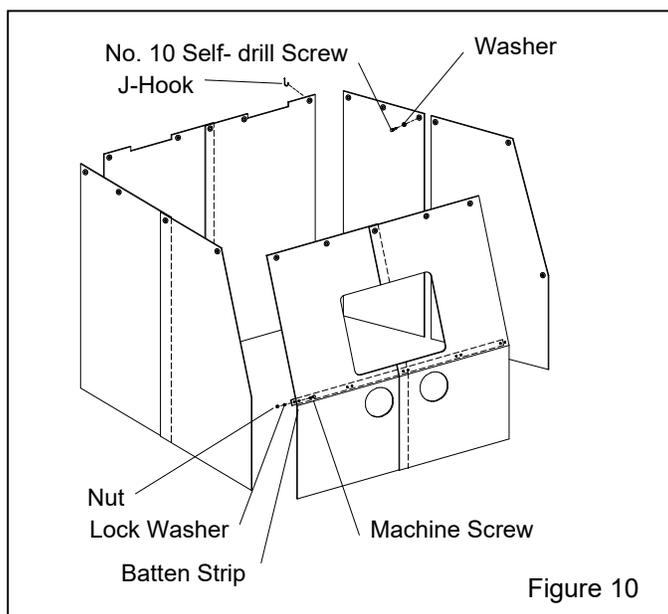

Figure 10
3.2 Cabinet Curtain Installation – Figure 10
3.2.1 Match the curtains to the corresponding wall and door as shown in Figure 10. Hook the curtains to the J-Hooks welded along the top of the front, back, and side walls. Cut openings for the hoses on the lower left rear wall.
3.2.3 For front walls, place the batten strip over the curtain, and clamp it in position on the front slope above the break as shown in Figure 10. Match drill .187" (3/16") diameter holes through the rubber and cabinet front at each batten hole. To install the batten, insert #10-24 x 1" round head machine screws through the cabinet front, curtain and batten. Install lock washers and nuts from inside the cabinet and tighten securely.